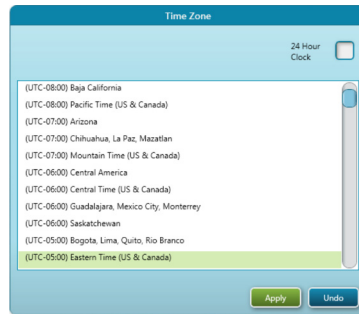

Figure 35. Select the local time zone for your XFp Analyzer.
- 2 To navigate to the Time Zone settings (**Figure 35** on page 56), click the lower-right arrow four times.